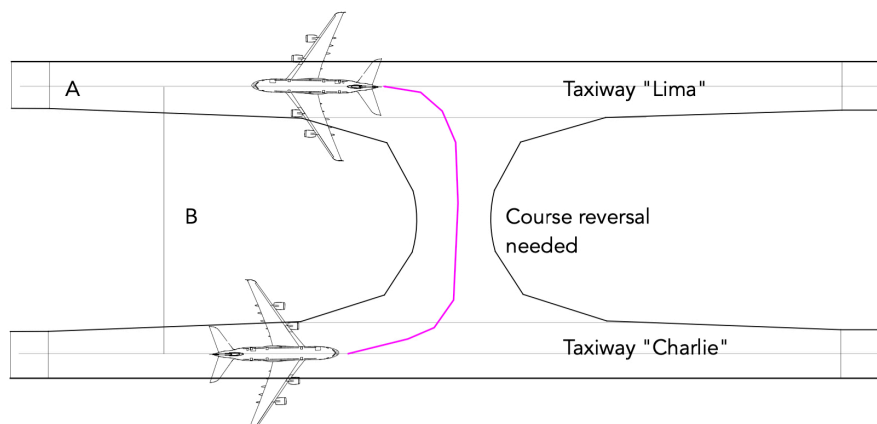

Figure 3. Schematic of Taxiway Crossover.
- Specify the dimensions needed to construct a taxiway crossover to link two new parallel taxiways to be constructed at an airport (see Figure 3). Design the crossover taxiway to satisfy the TDG criteria allowing aircraft to reverse direction (see Figure 3). The design aircraft is the Boeing 777-300ER (see Figure 2). Clearly state all the dimensions needed to draw your solution (L1, L2, L3, etc.).